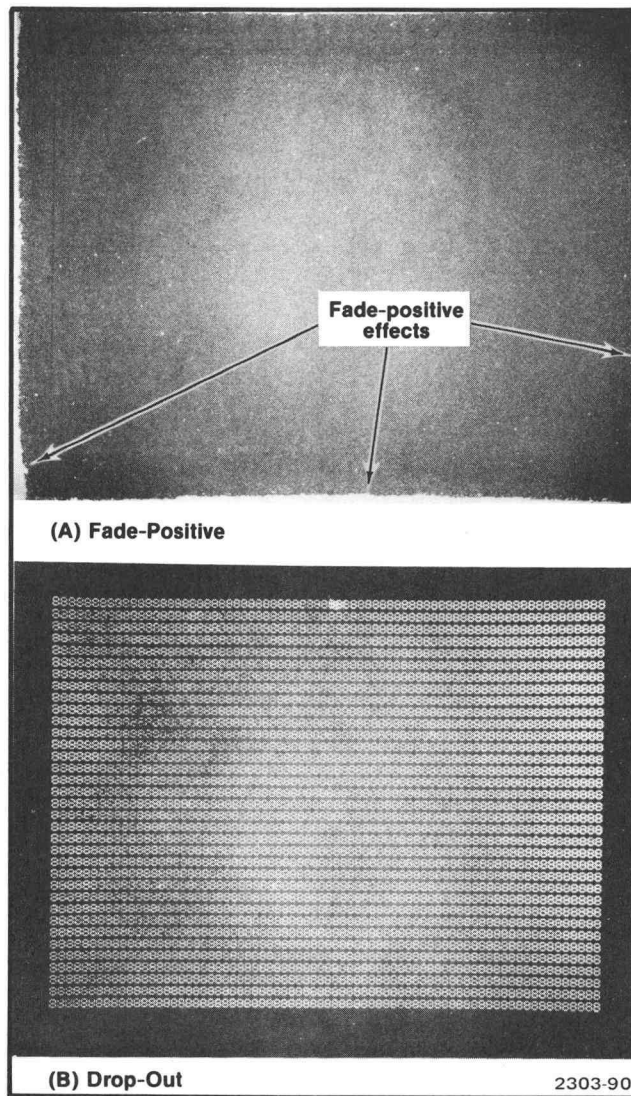

Figure 4-14. Display Conditions.
3. **Increase** the OP LEVEL adjustment or the NORMAL INTENSITY adjustment or both in 5 V increments if breaks occur in the Hard Copy pattern. Repeat the Hard Copy pattern for the best picture with a minimum number of breaks. An example of dropout is shown in Figure 4-14.